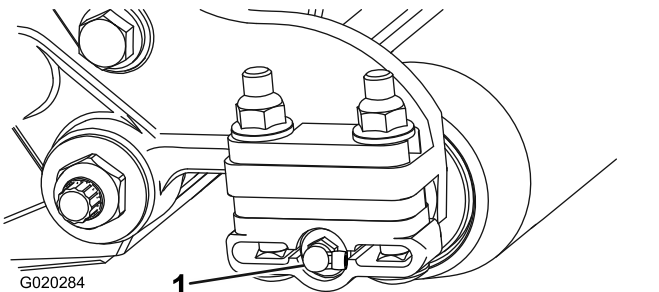

Figure 9
15. **On the 18-inch cutting unit only**, remove the straight grease fitting near the roller brush housing and install the 90° grease fitting in the same spot (Figure 9).